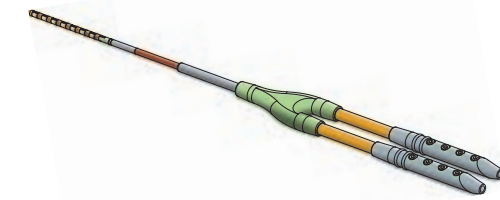

Figure 6. The Stretch-Coil™ bifurcated extension can be used to connect two 1x8 leads in order to create the unique 4-8-4 pattern.
- The Stretch-Coil™ bifurcated extension can be used with a 1x8 extension to connect three percutaneous leads (Figure 6).